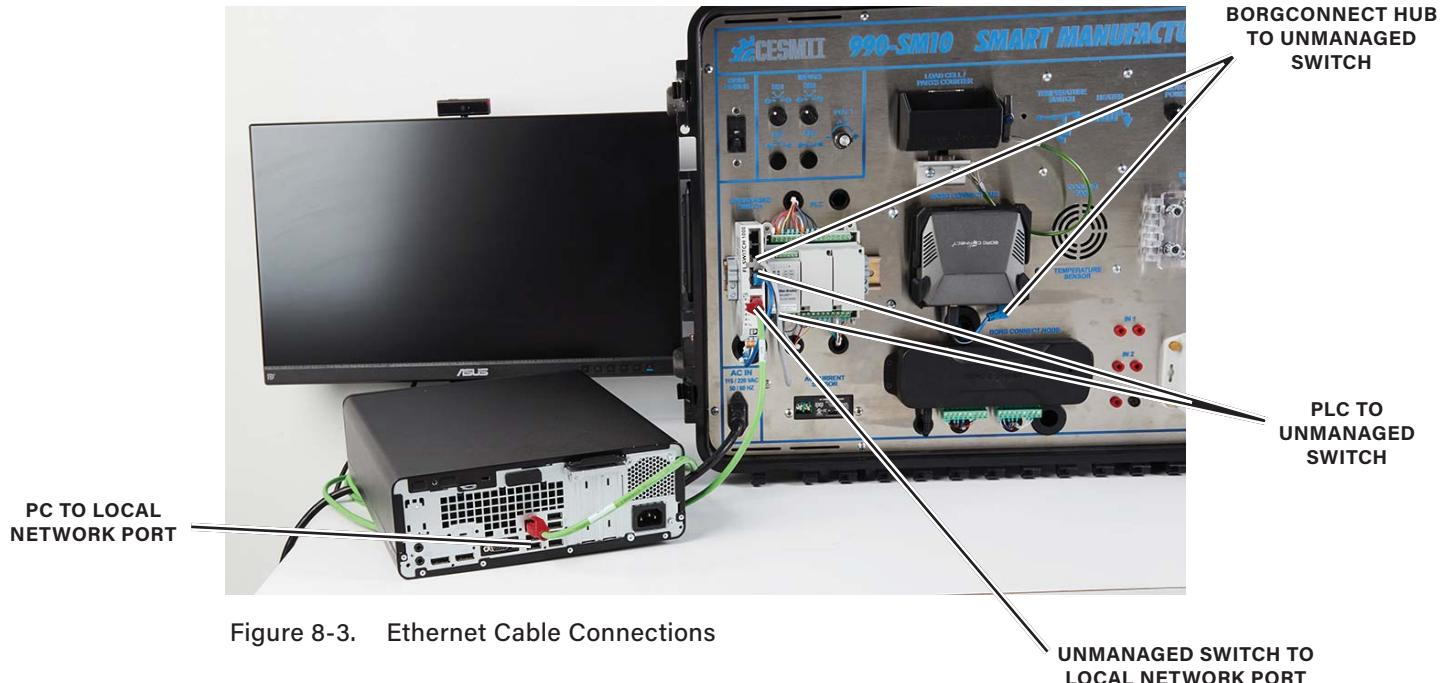

Figure 8-3. Ethernet Cable Connections
- Connect the Ethernet cables between the unmanaged switch, PLC, PC, and local network port, as shown in figure 8-3.